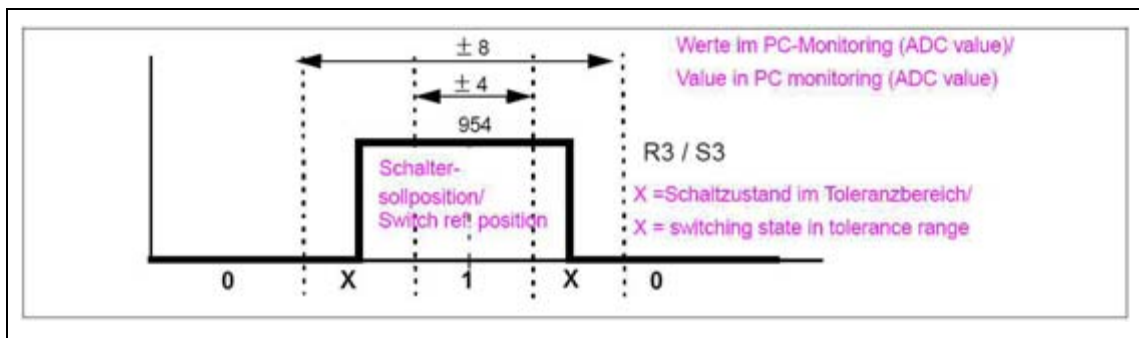

Fig. 20: Replacing S3
- Adjust reference switch S3 so that switching is assured within the stated switching hysteresis tolerance range (refer to (Fig. 5 / p. 36) and (Fig. 20 / p. 54)).
- Check the switching hysteresis of reference switch S3 according to (Fig. 20 / p. 54).